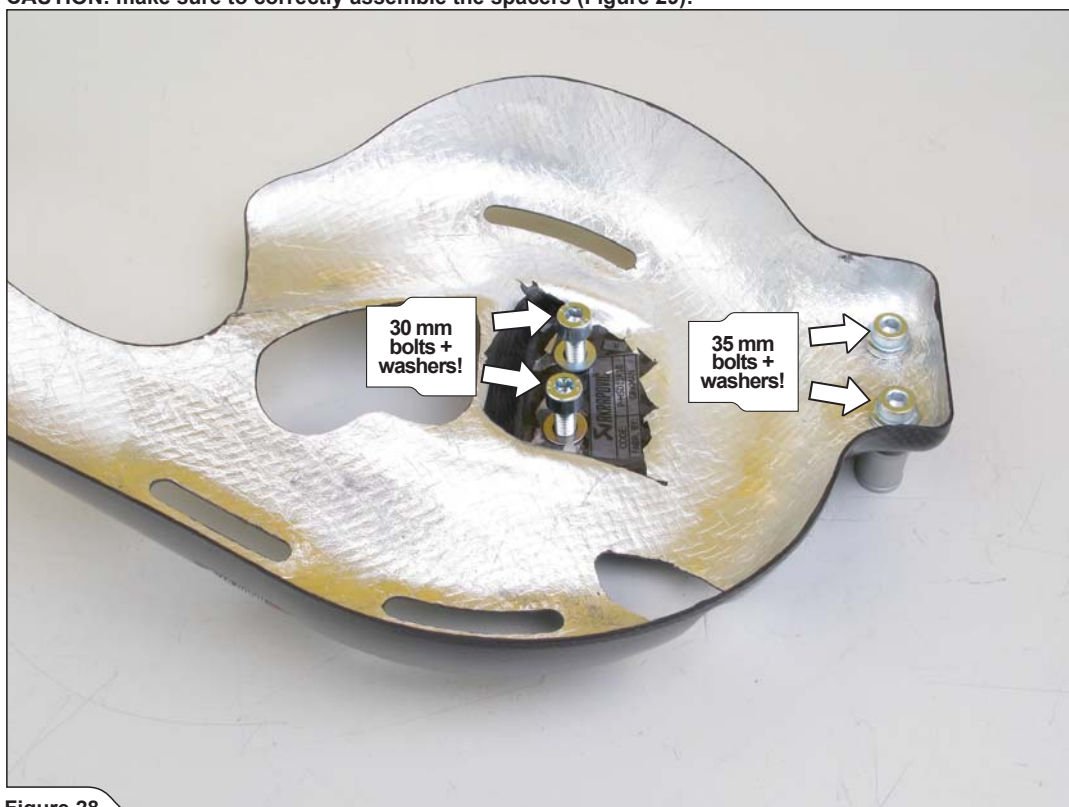

Figure 28
6. **For use without passengers foot rests only:** install the heat shield onto the sub-frame using spacers, bolts and washers from Akrapovič installation kit (**Figure 28, 29, 30**).